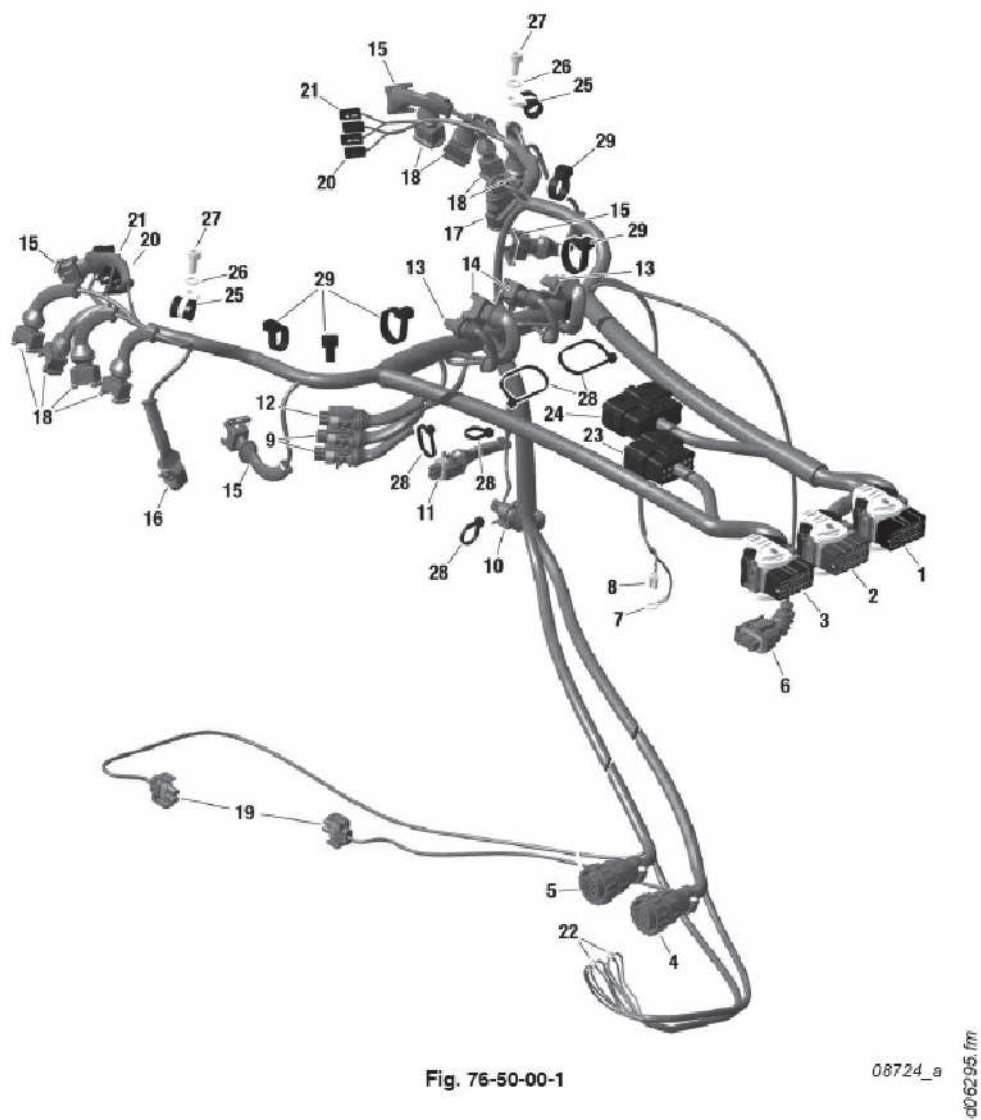

FIGURE 1: ROTAX ENGINE WIRING HARNESS
- Step 4: Install the Rotax 931 110 Sealing Rings into the grooves of the fuse box sockets per the Rotax 912iS Installation Manual Section 76-00-00, then route the "Fuse Box Lane A" (X1) and "Fuse Box Lane B" (X2) cables (Items 4 and 5 in Figure 1) aft from the engine airbox and plug them into the bottom two sockets on the right side of the ROTAX Fuse Box as shown in Figure 3.